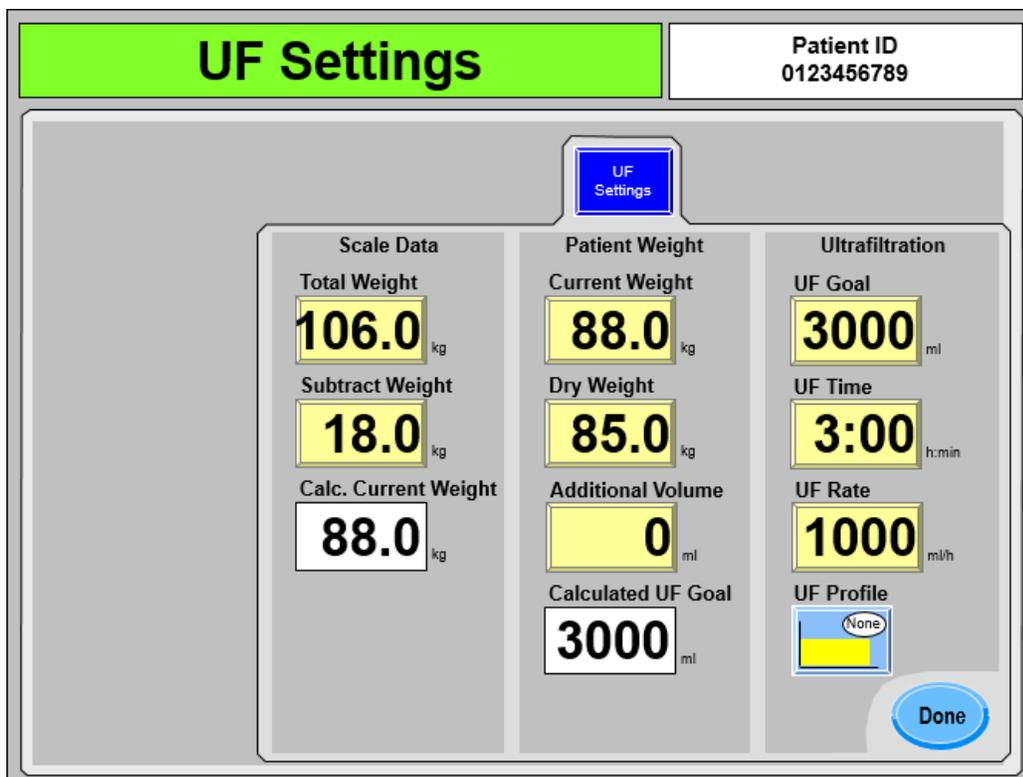

Figure 67 – The Prescription Screen UF Settings Subscreen
Each of the editable dialysate parameters are displayed to the right of the **UF Settings** screen-button. To edit the ultrafiltration (UF) parameters, select the **UF Settings** screen-button. The “UF Settings” screen will be displayed (see Figure 67 below).